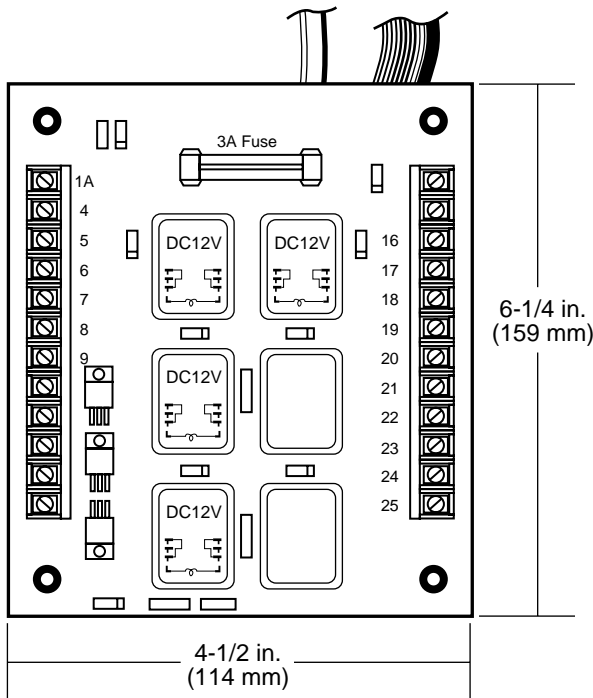

Figure 3-5.2
3-5.2 Relay Module. The Relay Module, figure 3-5.2, includes all of the control, alarm and shutdown relays that are required to make up the generator engine control. Relays are available for operation on either 12 or 24 volt battery systems. Four (4) relays are included for: